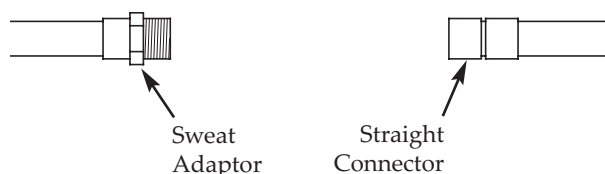

Figure 11
3. Solder a sweat adaptor onto one of the pipe ends (See Figure 11).
4. Place, but do not solder, a straight connector onto the other pipe end (See Figure 11).